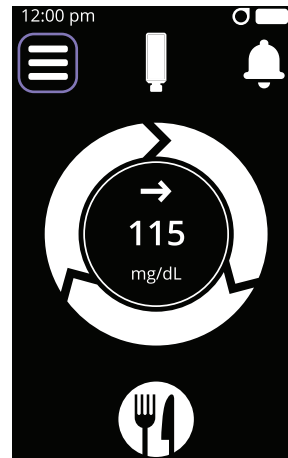

Figure 105
- Tap the Menu icon (see Figure 105)
Your iLet Device will alert you when important issues need to be addressed. There are several alert levels (see Figure 105). When multiple alerts occur at the same time, alerts with the highest priority will be displayed first.